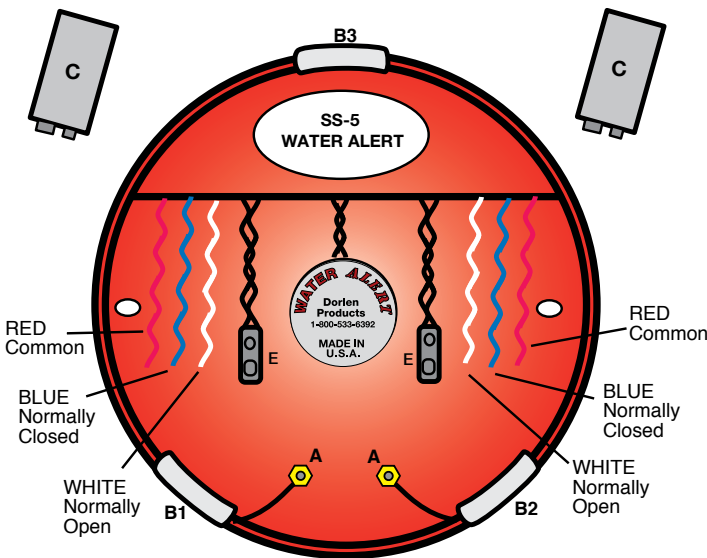

FIGURE 2
1. To adjust sensor height, hold straight edge across pads (B1 & B2). Turn sensors (A & A) out or until distance to straight edge equals the desired water detection level. See Figure 2.
The relay outputs are explained in figure 2 below. (Relay activates when water is present. If water subsides, relay will reset.)